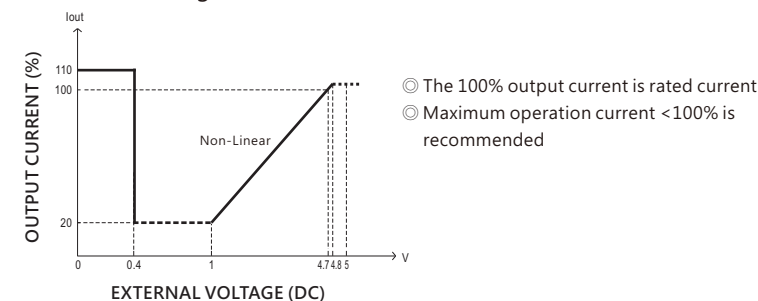

Figure 5-5
2. Relationship between output current and external DC source is shown in Figure 5-5